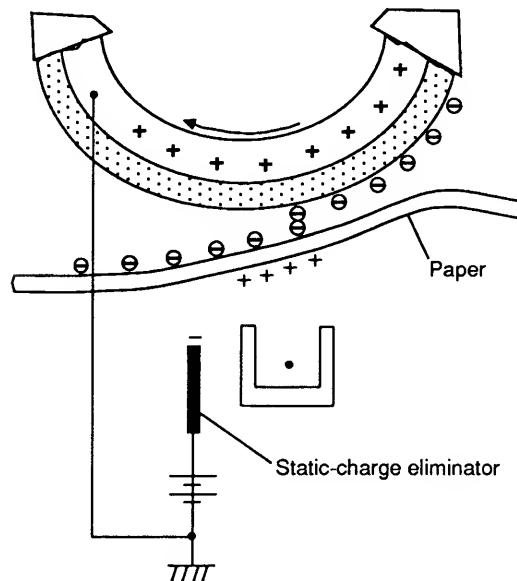

Figure 1-11 Static Charge Eliminator
2. The stiffness of the paper, with an assist from a negative voltage produced by a static-charge eliminator, separates the paper from the drum. The eliminator weakens the attractive force between the paper and the drum (**Figure 1-11**).